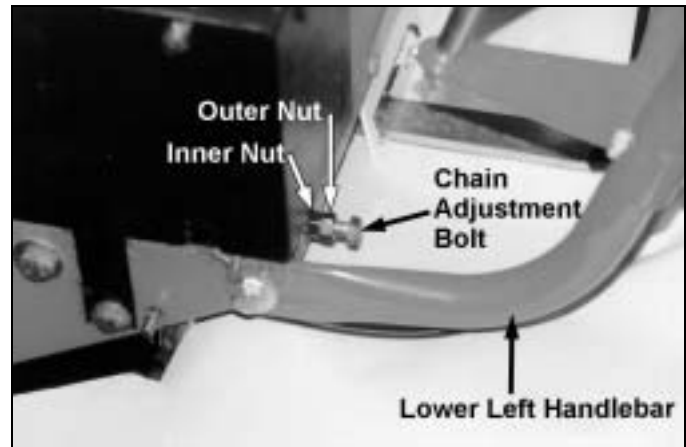

Figure 27
1. Loosen the outer nut on the chain adjustment bolt so you can access the inner nut (*Figure 27*).
2. Tighten the inner nut by hand or with a 1/2" wrench until it is snug against the frame (*Figure 27*).
8. Readjust the chain drive adjustment bolt (*page 19, Figure 27*).